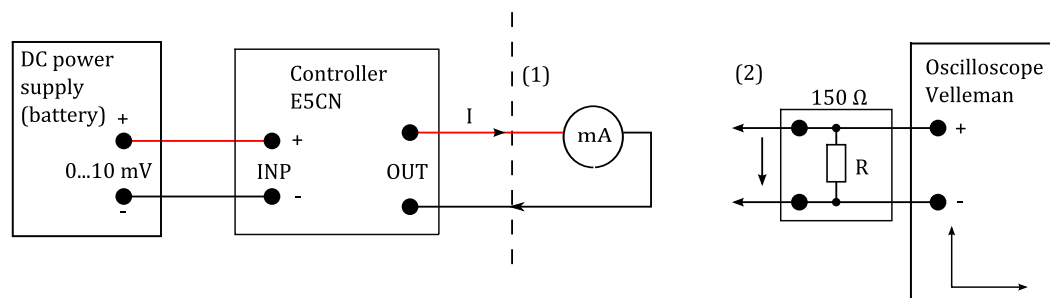

Figure 2: Studies of PID controller reaction on error: (1)-measuring output, (2)-recording output signal
✓ For the first test assemble a circuit Fig. 2-(1).
- ✓ Disconnect a voltmeter and assemble a circuit Fig. 2-(2).